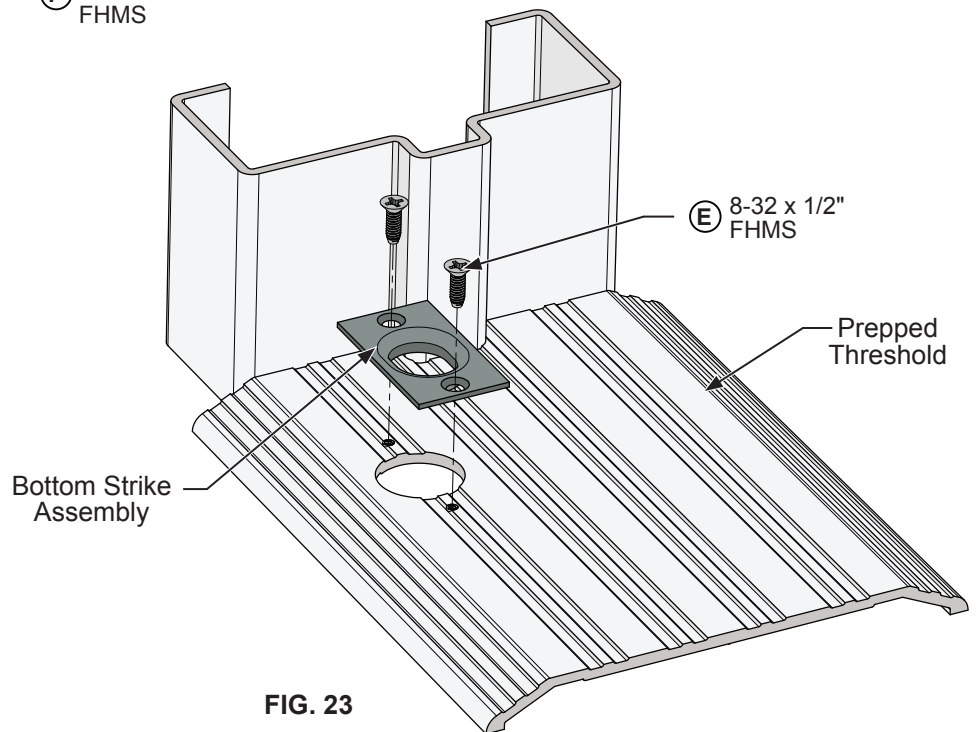

FIG. 23
Drill a 1" diameter hole and drill and tap for (2) (E) 8-32 x 1/2" FHMS on the mark made in step 2 of the frame preparation on page 16. Attach the bottom strike centering on the mark using (2) (E) 8-32 x 1/2" FHMS. (Fig. 23)